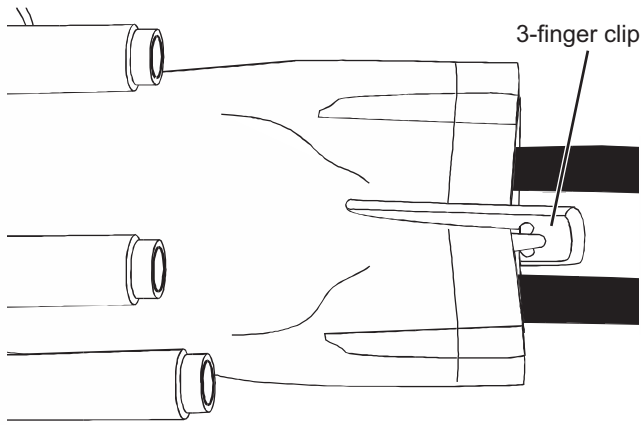

Figure 11
- Step 6:** If more than one cable is being installed in the oval port, position the 3-finger clip between the two cables at the end of the heatshrink tube (Figure 11).